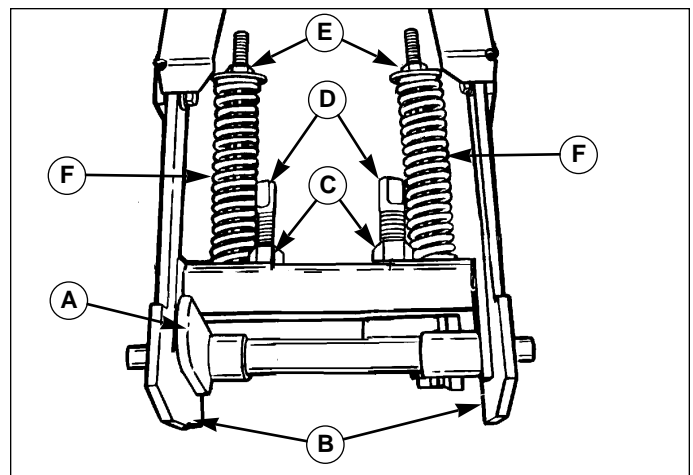

Figure 4. Lift Adjustment
2. Loosen the nuts (C, Figure 4).
3. Turn the lift height bolts (D) until the dozer blade is at the desired height and level.
4. Hold the lift height bolts (D) in position and lock in place with the nuts (C).